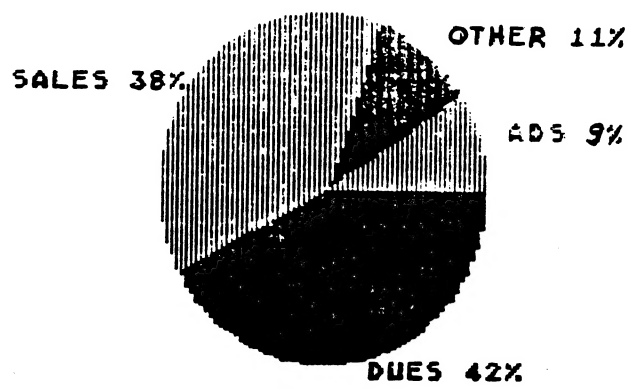

Fig. 3
- Income produced by the newsletter (advertising revenues) constitute only 9% of the club's income (See fig. 3).